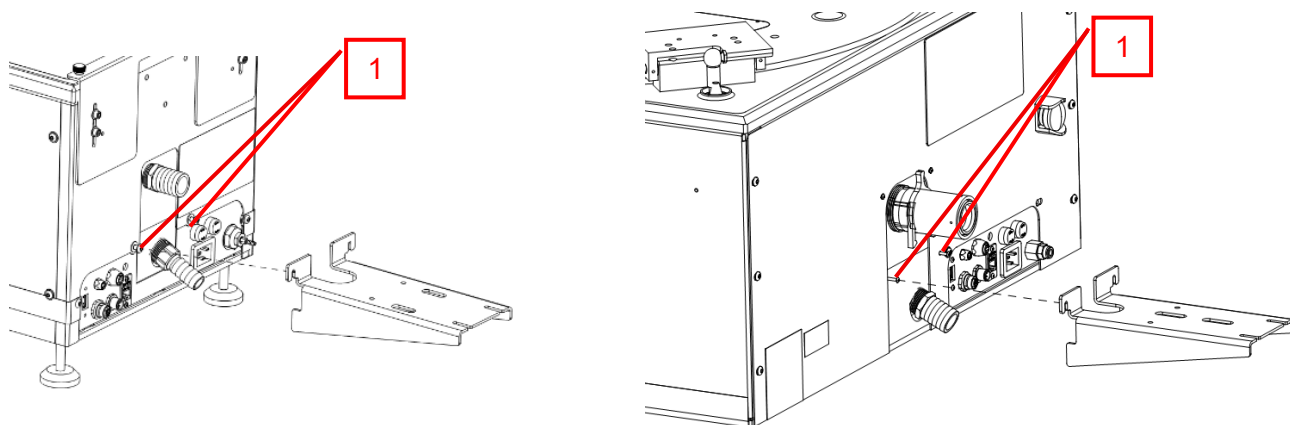

Figure 8 Apogee® 200 and 450 Spin Coater OptiFlow™ Bracket Install
4. Loosen the two mounting screws (labeled 1 in Figure 8). Do not remove the screws completely. Figure 8